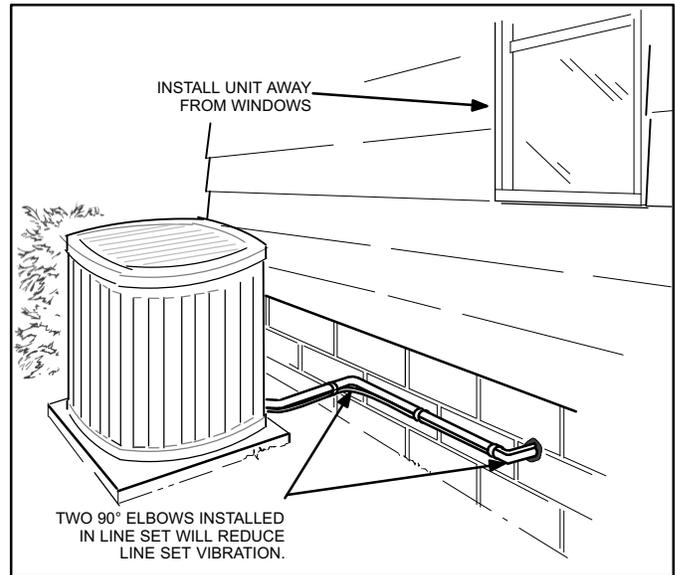

Figure 7. Outside Unit Placement
- When possible, do not install the unit directly outside a window. Glass has a very high level of sound transmission. For proper placement of unit in relation to a window see the provided illustration in figure 7.